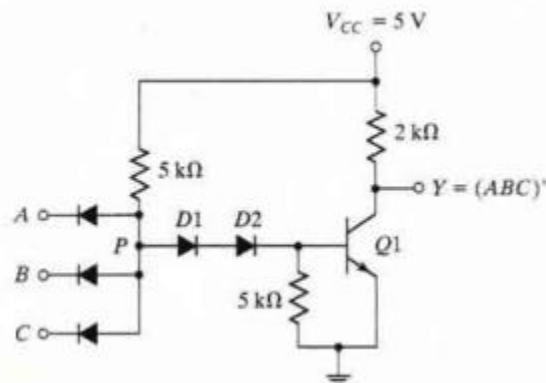

Fig 5. DTL logic Circuits
- The basic circuit in the DTL digital logic family is the **NAND gate** is shown in figure 5.